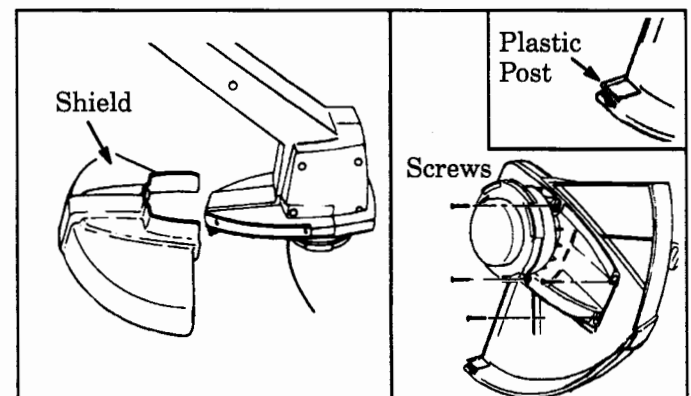

Figure 5
Failure to install the shield in the position shown in Figure 5 can result in serious injury to the operator. The shield provides partial protection from the risk of thrown objects to the operator and others.
1. Slide the shield onto the motor housing until the surfaces are flush. Figure 5.
2. Insert the four self-tapping screws B in the shield (see Figure 5). Tighten screws with a Phillips screwdriver.
NOTE: Before using the unit, break the plastic post away from the line limiter with a pair of pliers. Figure 5.